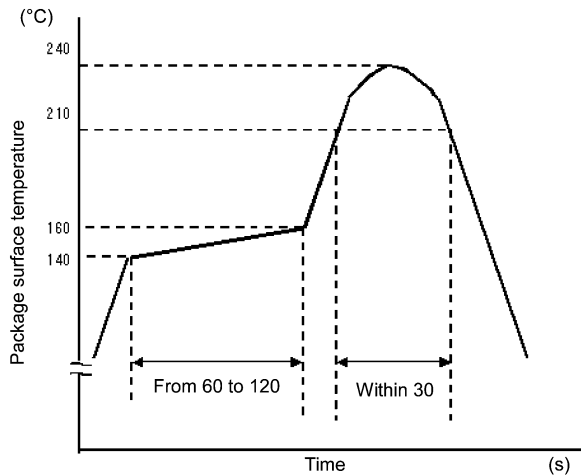

Fig. 11.1.1 An Example of a Temperature Profile When Sn-Pb Eutectic Solder Is Used
- When using soldering reflow (See Fig. 11.1.1 and 11.1.2)